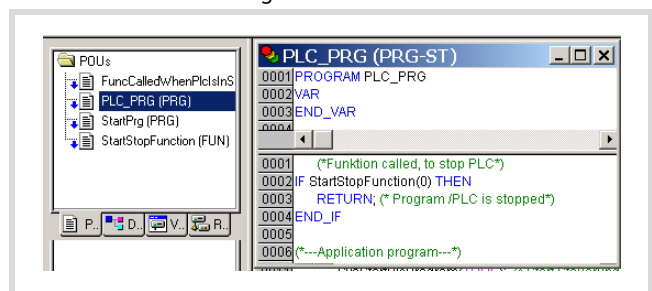

Figure 111: Scanning START/STOP
- ▶ Enter the program for PLC_PRG as shown in figure 111. It is important that the user program and the POU calls are inserted as shown in figure 111.